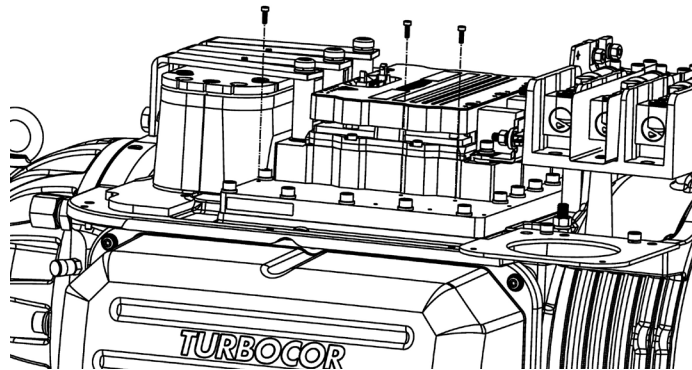

Figure 9 – Rear Open Frame DC-DC Fasteners
5. After the removal of the Open Frame DC-DC Converter, completely remove the three (3) DC-DC Converter fasteners closest to the Inverter. Refer to Figure 9 (Rear Open Frame DC-DC Converter Fasteners).